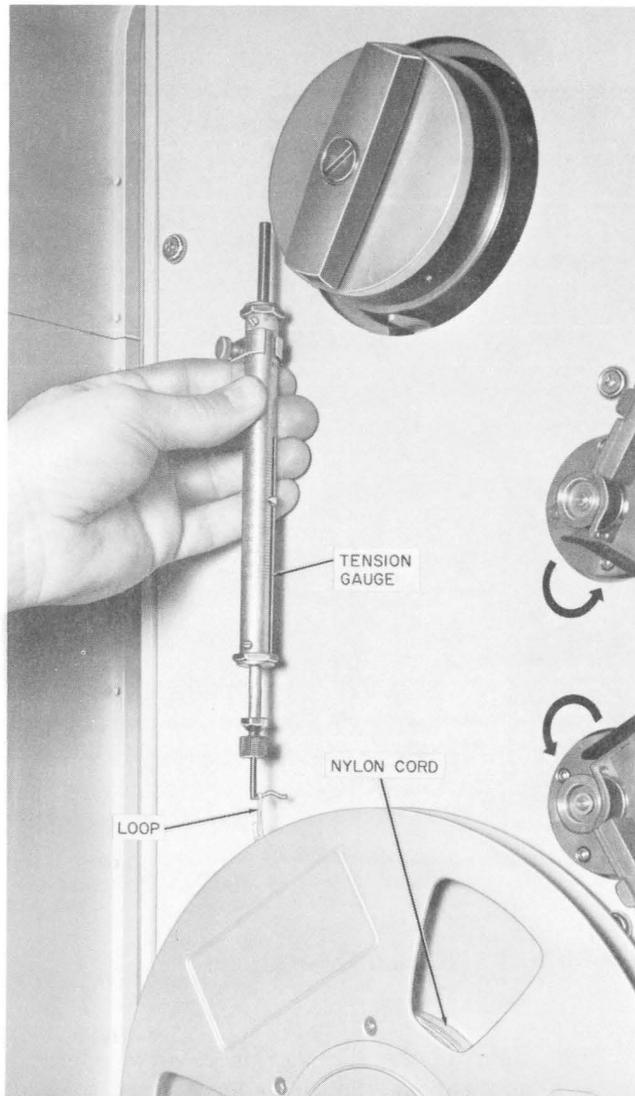

Fig. 5—Measurement of Reel Brake Tension—Typical
(1) Wrap one end of a nylon cord several turns clockwise around the hub of the empty reel (Fig. 5).
(2) Attach the 79B gauge to a loop in the free end of the cord.
(4) Pull the tension gauge (Fig. 5) in a direction in line with the wraps of cord on the reel hub. Pull smoothly and steadily until the reel rotates and, with the reel turning smoothly, observe the gauge reading.